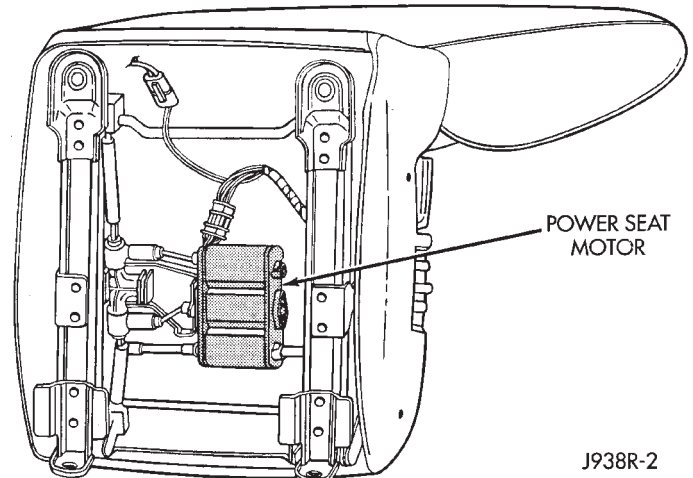

Fig. 3 Power Seat Motor Installation—Right Side Shown
- (2) Remove screws attaching motor assembly to seat frame and remove motor assembly and mounting spacers (Figs. 3 and 4).